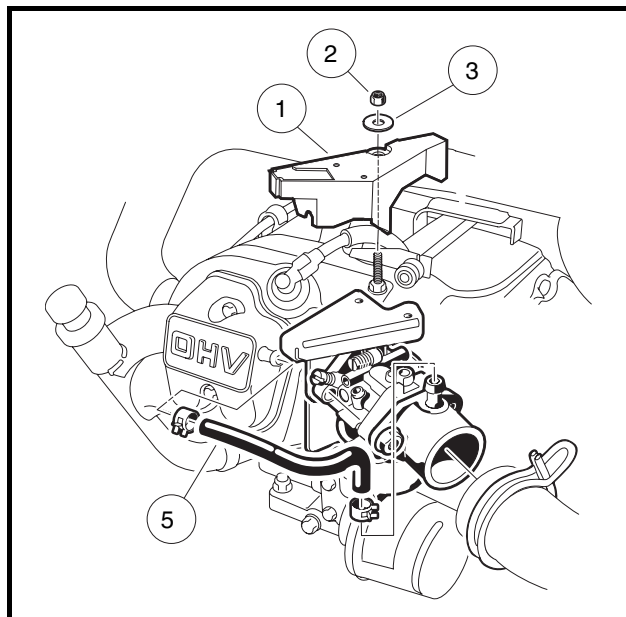

Figure 12-24 Governor Guard Removal
3. Remove the governor guard (1) **(Figure 12-24, Page 12-25).**
19. Place the governor guard (1) onto the throttle bracket and the 2-ended bolt. Install the two Torx screws (4) through the governor guard into the throttle bracket and tighten to 15 in-lb (1.7 N·m). Place the 3/8 flat washer (3) onto the 2-ended bolt and secure with nylon lock nut (2). Tighten the nut to 50 in-lb (5.7 N·m) (**Figure 12-24, Page 12-25**).